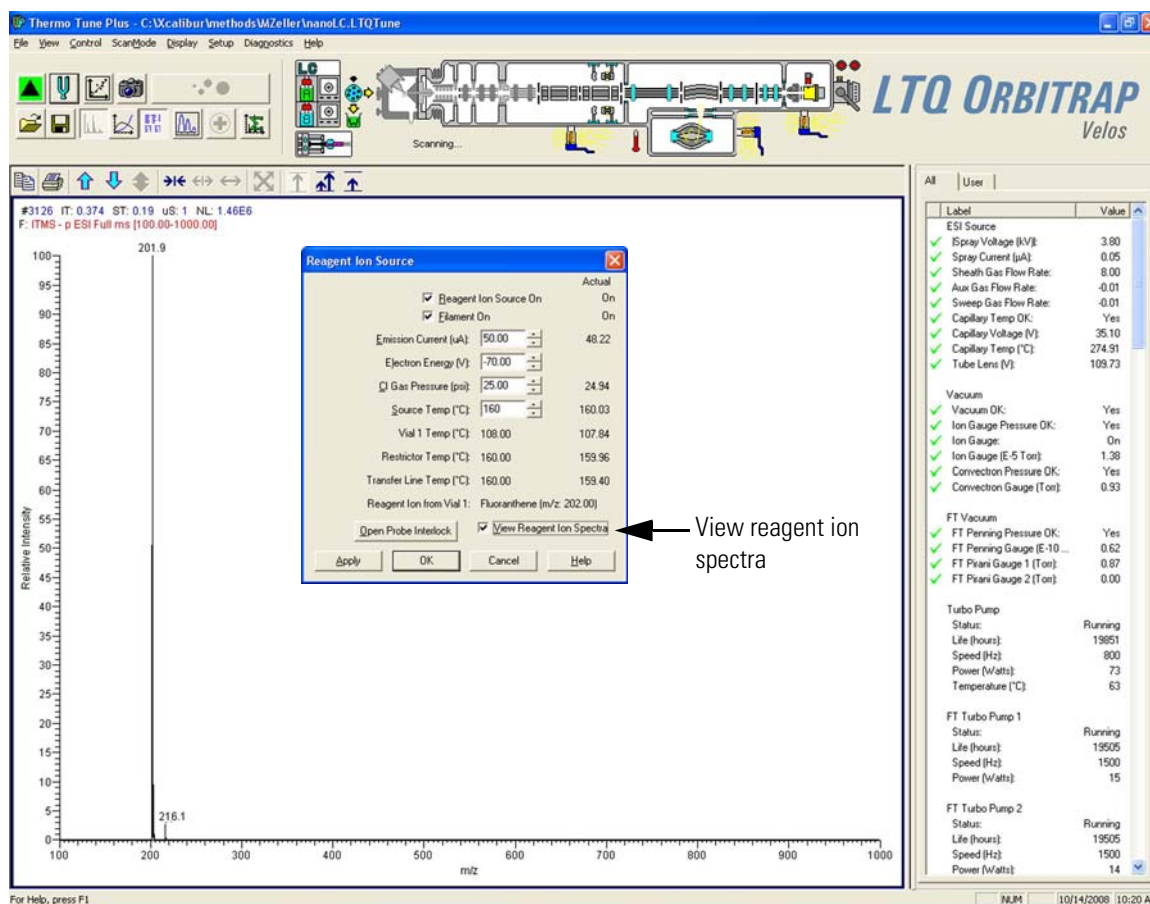

Figure 7-10. Tune Plus window showing the fluoranthene radical anion mass spectrum
1. Select the **View Reagent Ion Spectra** check box in the Reagent Ion Source dialog box. See Figure 7-10.
2. Reagent ion peaks appear in the Spectrum view. See Figure 7-10.
3. In the Reagent Ion Source dialog box, select the **View Reagent Ion Spectra** check box. See Figure 7-10 on page 7-11.